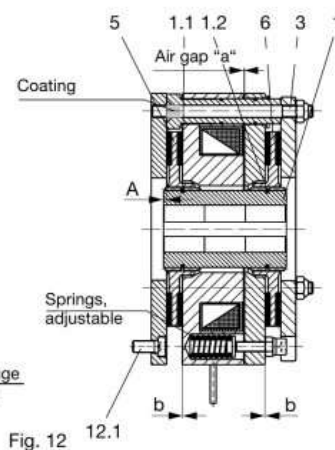

Fig. 12
- ❑ Dimension "A" (Fig. 12) must be kept to.
1. Mount the gear hub assembly (1) onto the shaft according to Fig. 12, **please observe dimension "A" according to Fig. 12; please observe the entire carrying length of the key**, and secure axially (e.g. using a locking ring).
2. If necessary, mount the flange plate (12) using the cap screws (12.1) (please observe the tightening torque).
3. Using light pressures, push rotor 1 (5) by hand over the O-rings (1.1 and 1.2) onto the gear hub (1) (Rotor collar faces away from machine wall or flange plate). Please make sure that the toothings runs smoothly.